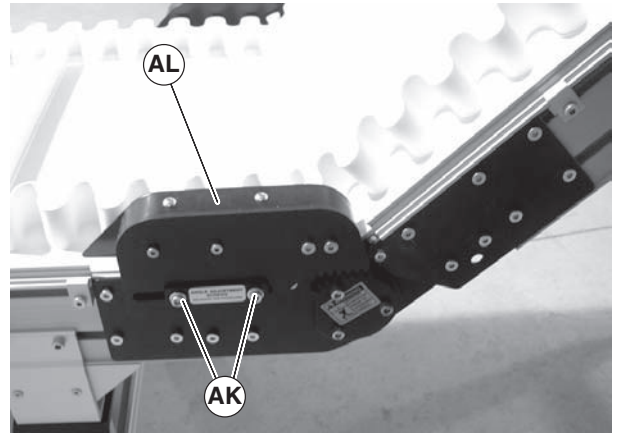

Figure 17
3. If equipped with a lower knuckle, remove screws (Figure 17, item AK) and remove lower knuckle return roller assembly (AL) on both sides of conveyor, note the position of the meshing teeth.